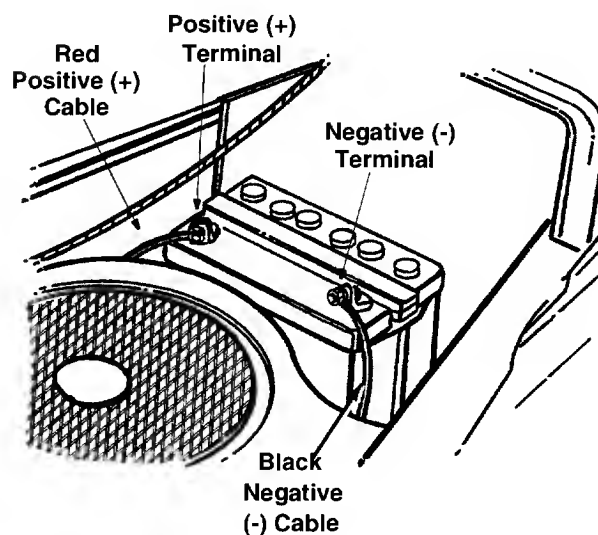

Figure 16
1. Lift the hood of the tractor. Remove the wing nuts from the hold-down rods which secure the battery cover to the battery. See Figure 16.
2. Attach the positive cable (heavy red wire) to the positive battery terminal (+) with hex bolt and hex nut. See Figure 16. Slide the rubber boot down over the positive terminal.